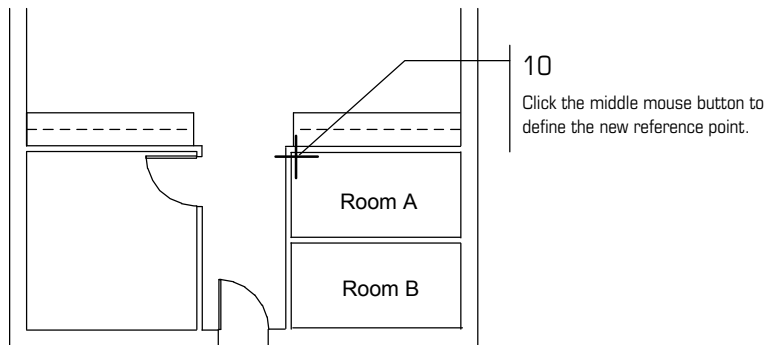

Figure 3.39: Locating the next door
10. Click the middle mouse button near the upper-left corner of Room A, shown in Figure 3.39. You are prompted to *Select hinge side of door*.